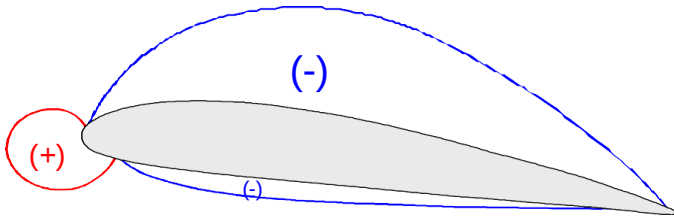

Figure 4.4
- Figure 4.4 shows an aerofoil section at a representative angle of attack subject to a given dynamic pressure (IAS). “If the static pressure on one side of a body is reduced more than on the other side, a pressure differential will exist”.